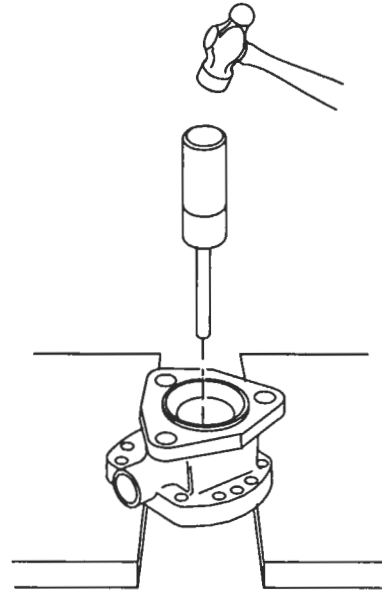

Figure 8. Installing Inner Oil Seal
- b. With the pump body supported on wood blocks, insert the pilot of the installer handle in the pump body so the seal starts straight into the pump flange (Figure 8.) Then, drive the seal in until it bottoms.